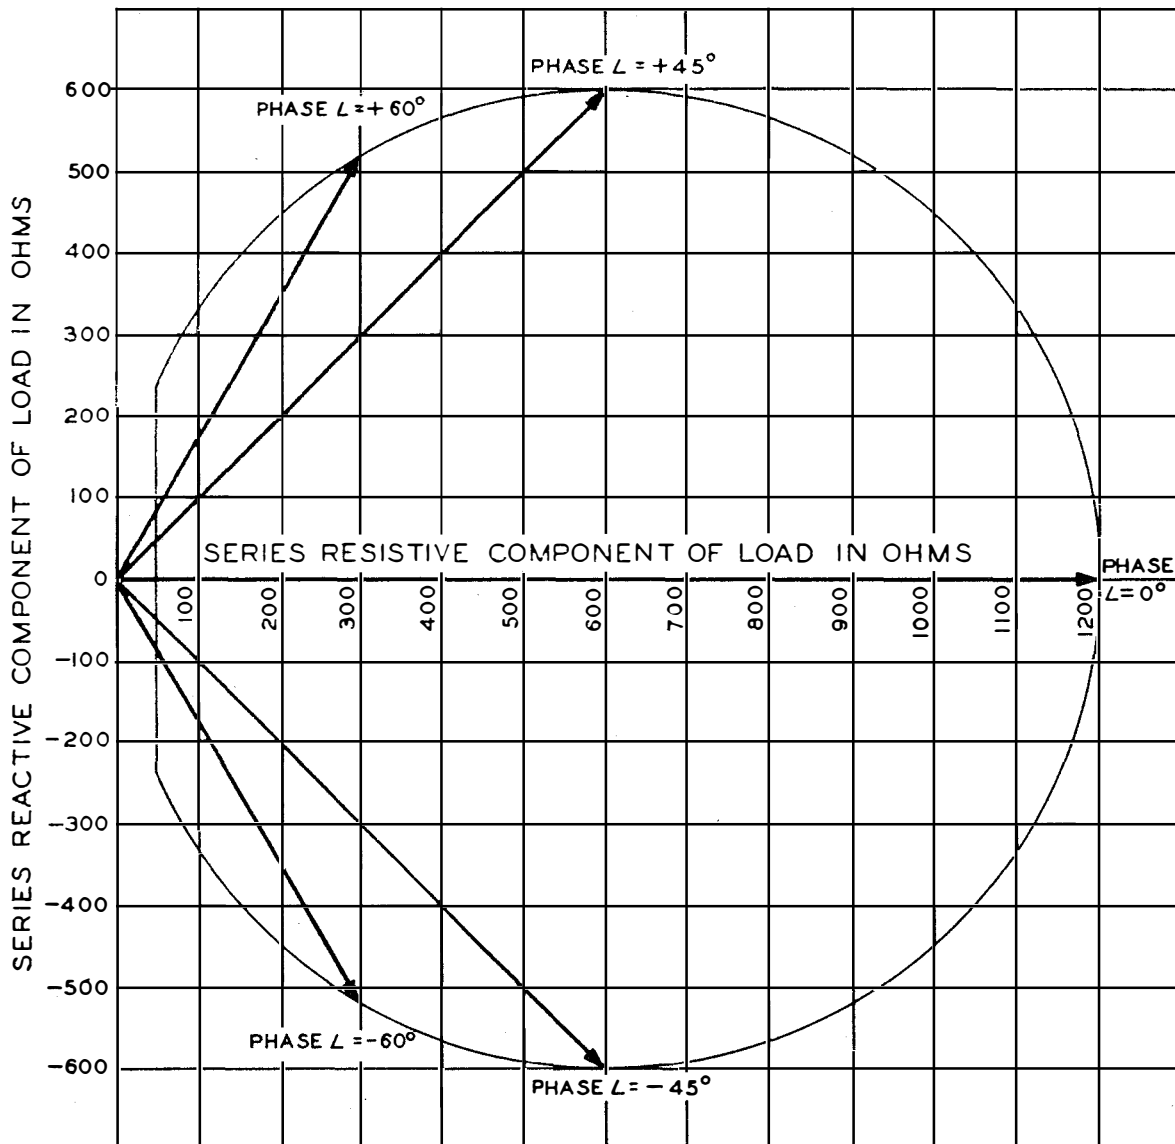

Fig. 20A Output Network Impedance Matching Range (Dwg. No. 500 4383 00C)
**4.6.3. Power Amplifier and Antenna Tuning.** The power amplifier plate tank and antenna loading circuits in this transmitter are combined in a pi network. The network is designed to couple the output of the power amplifier to an unbalanced antenna system. The circuit will couple the power amplifier circuit to antennas having impedances of from 50 to 1200 ohms with a phase angle of 0 degrees, 70 to 850 ohms with a phase angle of  $\pm 45$  degrees and 100 to 600 ohms with a phase angle of  $\pm 60$  degrees. Refer to Fig. 20A. By making the proper jumper connections on terminal strip E101 on the rear of the network, either of two antennas may be selected for a particular position of the POWER AMP. BAND SWITCH.